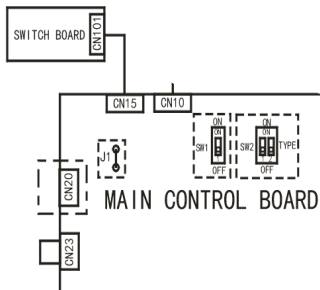

Fig. 24 — Main Control Board
13. Connect the wire from the Main Control board. see Fig. 24 — on page 22.
1. Locate the net module connected to CN20 on the Main Control Board (see Fig. 24).